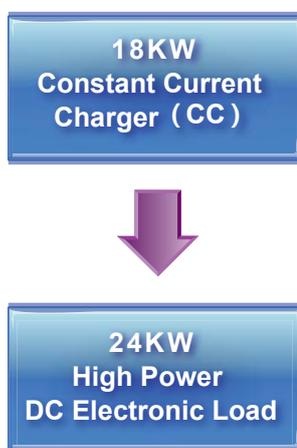

Figure 2 : Single charger connects to a single load
In case only a 18kW electronic load is available, a 6 kW load model can be added at any time to be used in parallel with the original 18kW load in Constant Voltage (CV) or Constant Resistive (CR) mode of operation. This is illustrated in Figure 2. This is due to the Prodigit load's OPL function which allows CV or CR mode with parallel loads of unequal power ratings. This capability offers great flexibility in deploying multiple loads for a wide range of power requirements.